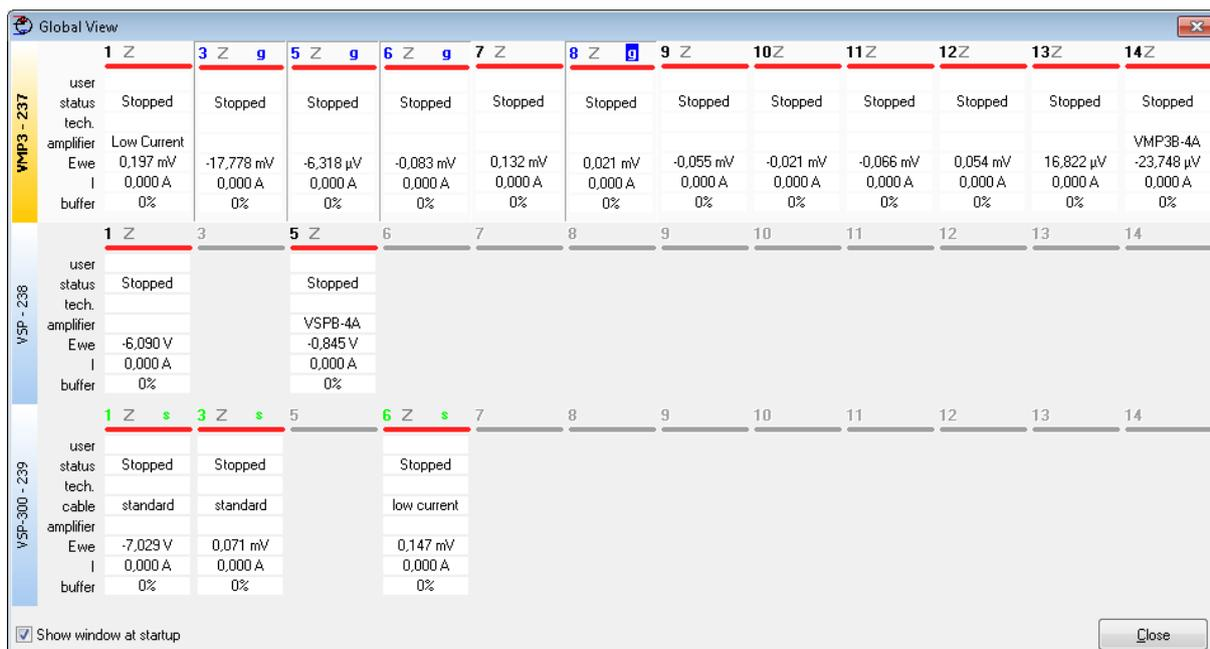

Fig. 68: Global view to show the grouped and synchronized channels.
2. If EC-Lab® is connected to a suitable multichannel, the **Group/Synchronize/Stack** window accessed using this button will show the **“Stack”** option in the drop box (cf Fig. 68).